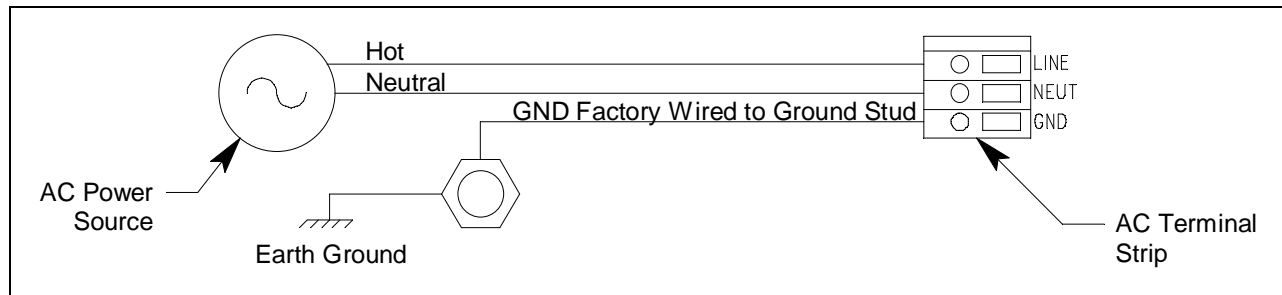

Figure 8: AC Power Wiring
4. Connect the leads from the external alarm device to the alarm terminal strip as shown in Figure 8.